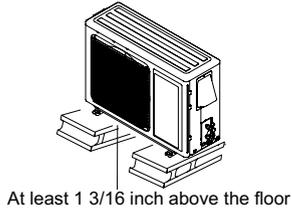

Fig.18
(3) The outdoor unit should be installed at least 3cm above the floor in order to install drain joint.(As show in Fig.18)
(4) For the unit with cooling capacity of 2300W~5000W, 6 expansion screws are needed; for the unit with cooling capacity of 6000W~8000W, 8 expansion screws are needed; for the unit with cooling capacity of 10000W~16000W, 10 expansion screws are needed.